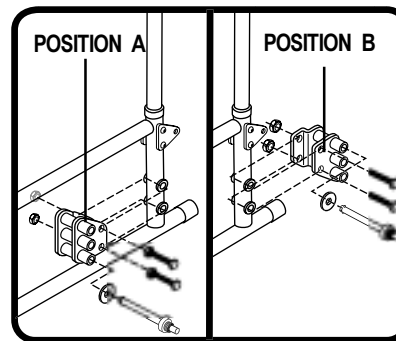

Figure 12. Drive Wheel Bracket
2. Remove the hardware that fastens the drive wheel bracket to the frame. See figure 12.